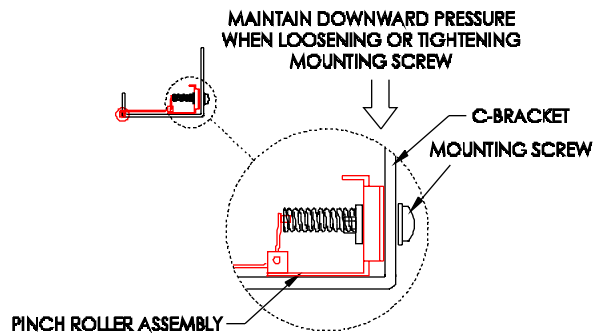

Figure 3-13. Upper Roller Mounting.
| 7. Not maintaining downward pressure (towards the floor) on the head of each mounting screw at the same time as you loosen or tighten the screw. | 7. The upper roller support will not be perfectly level and will not perform its function properly. Each mounting screw must be completely at the bottom edge of its hole in the back of the C-bracket as you loosen or tighten the screw. See Figure 3-13. |
4. Following all of the above information precisely will ensure that the Upper Roller Support springs are deflected and the lower tail of the springs will always be pressed against the C-bracket's vertical wall (without a gap) as shown in Figure 3-13.